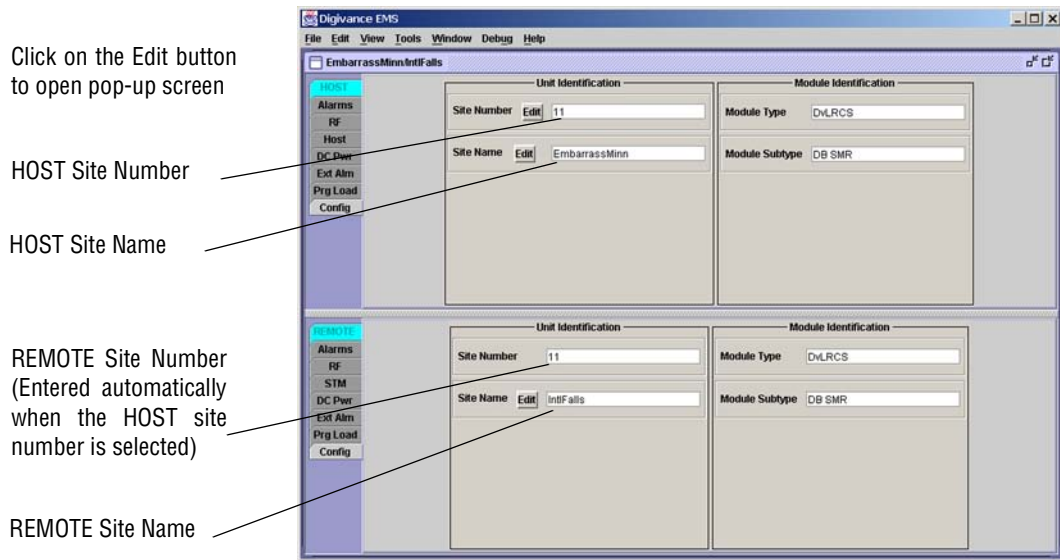
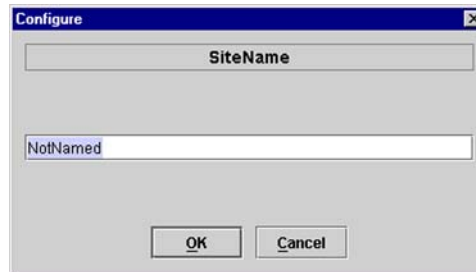

Figure 3-5. HOST and REMOTE Config Displays
Figure 3-6. HOST Site Name Pop-Up Screen
1. Click on the **HOST Config** tab and on the **REMOTE Config** tab. The **HOST Config** display and the **REMOTE Config** display will open within the EMS main window as shown in Figure 3-5.
2. Click on the **HOST Site Name Edit** button (see Figure 3-5). The **Site Name** pop-up screen will open as shown in Figure 3-6. Enter a unique name for the HOST. The name may be up to 32 characters long and must not contain any spaces. The name may include numbers, punctuation, and upper or lower case letters and must always begin with a letter. Click on **OK** to close the screen and make the changes take effect.
3. Click on the **HOST Site Number Edit** button (see Figure 3-5). The **Site Number** pop-up screen will open. Enter any number (must be unique) between 1 and 24 and then click on **OK** to close the screen and make the changes take effect.
4. Check the **REMOTE Site Number** field (see Figure 3-5). The REMOTE Site Number does not have to be entered. When the HOST Site Number is entered, the system will automatically enter the same number for the REMOTE Site Number.
5. Click on the **REMOTE Site Name Edit** button (see Figure 3-5). The **Site Name** pop-up screen will open. Enter a unique name for the REMOTE. The name may be up to 32 characters long and must not contain any spaces. The name may include numbers, punctuation, and upper or lower case letters and must always begin with a letter. Click on **OK** to close the screen and make the changes take effect.